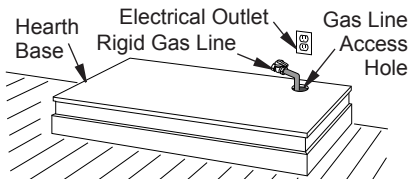

Figure 9 - Placing Hearth Base Accessory Against Wall
2. When installing blower, install a properly grounded, 120 volt three-prong electrical outlet at fireplace location if an outlet is not there. If possible, locate outlet so cabinet mantel will cover it when installed (see Figure 9).
4. Place hearth base accessory against wall at installation location. Cut an access hole in hearth top to run flexible gas line to fireplace (see Figure 9). Make sure to locate access hole so cabinet mantel will cover it when installed. *Note: You can secure base to floor using wood screws. Countersink screw heads and putty over.*